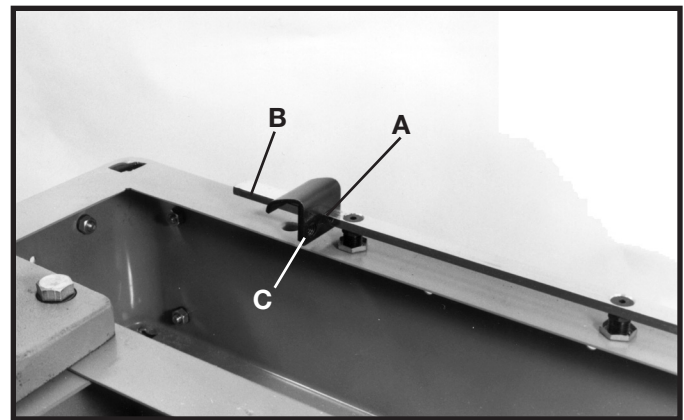

Fig. 25
2. Position the metal clamp (A) Fig. 25, on the end of table mounting bracket (B). **NOTE:** Assemble metal clamp (A) so threaded hole (C) is on the inside of table mounting bracket.